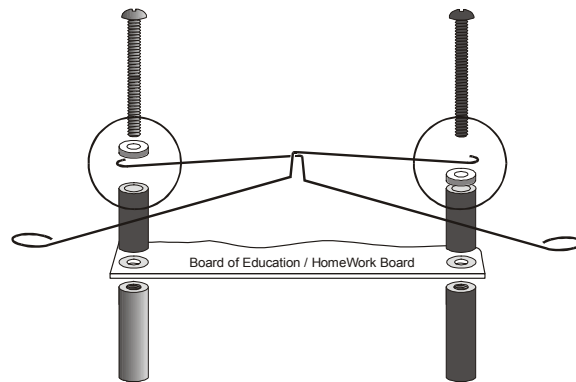

Figure 5-3
- ✓ Refer to Figure 5-3 while following the remaining instructions.